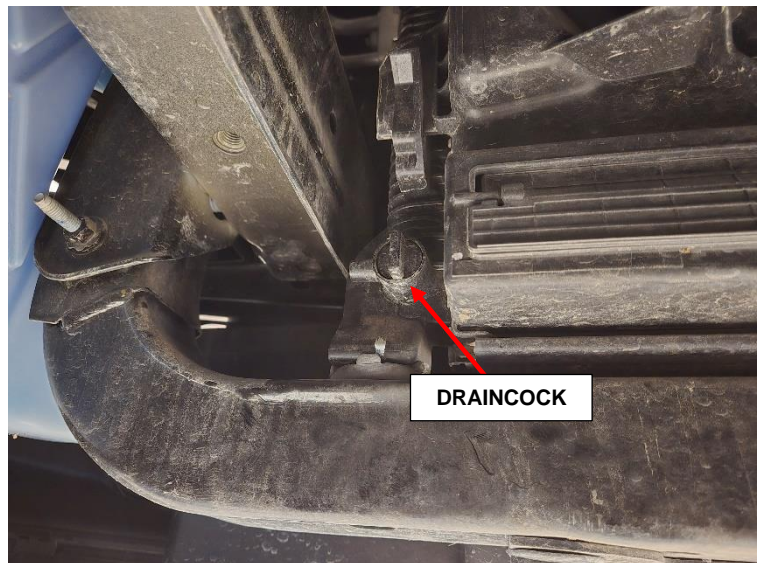

Figure 2 - Draincock
5. Attach a hose to the radiator draincock fitting and loosen the radiator draincock valve (Figure 2).